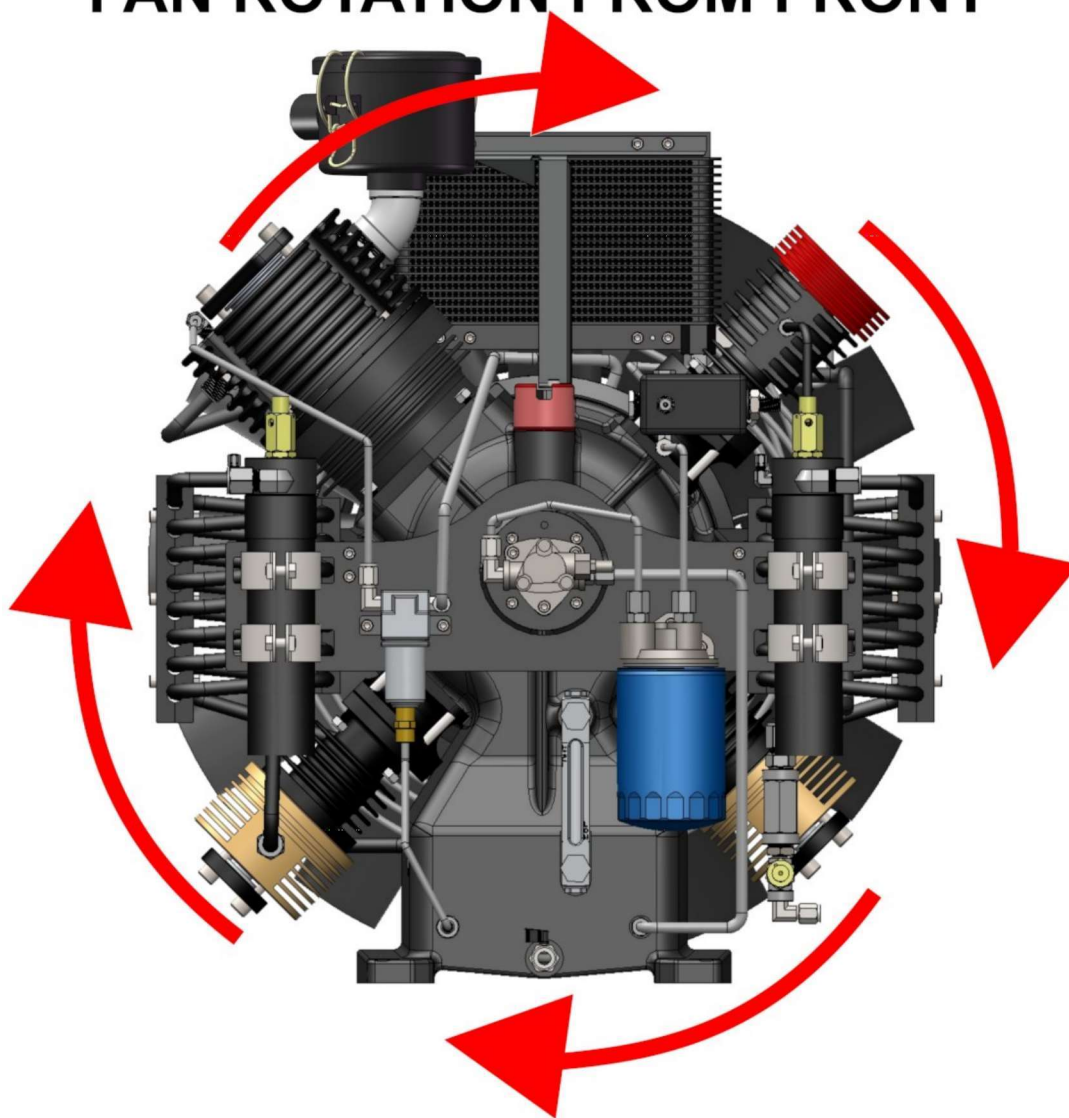

Figure 3.7: Compressor Rotation.
- Check the direction of rotation (Clockwise from front). See figure 3.7. Oil pressure will only build if the unit is rotating in the correct direction.